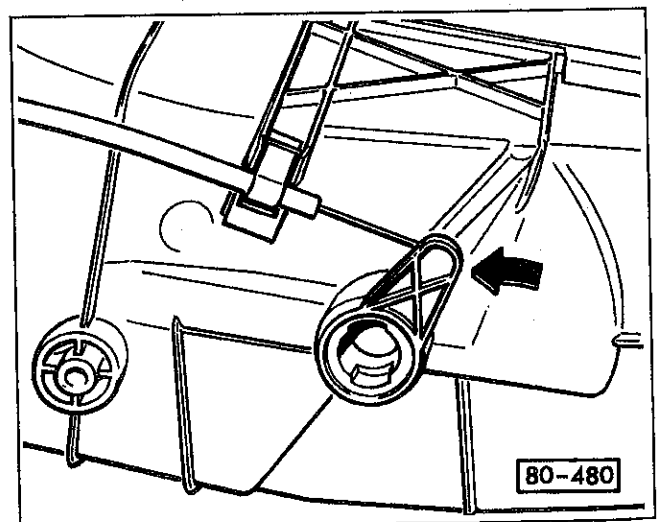

Fig. 6. Push main shut-off lever against stop (direction of arrow), then install cable retaining clip.
4. Push lever to stop. See Fig. 6.